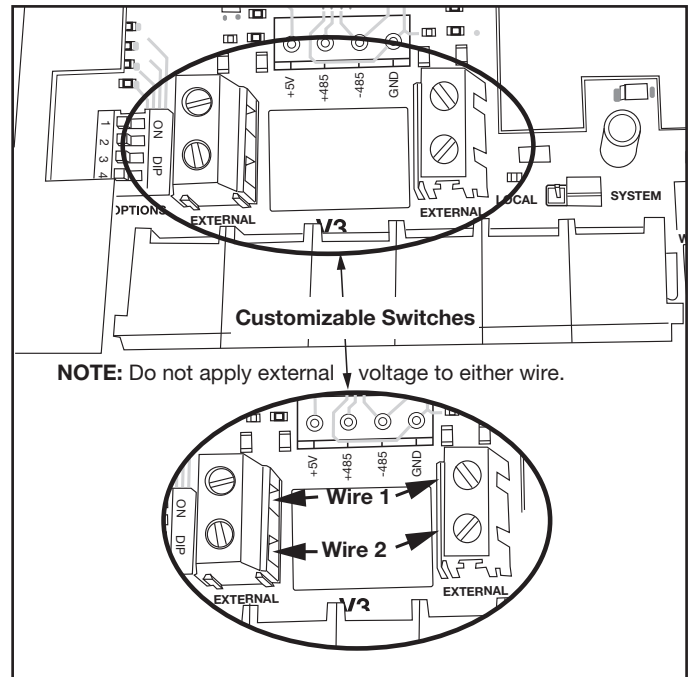

Figure 9. Connect 10 Customizable Switches
There are two (2) customizable switch inputs that allow for an operation of a Favourite setting. The inputs are one of two (2) 2-way screw terminals located above the bank of RJ-12 communications terminals on the system board. See Figure 9.